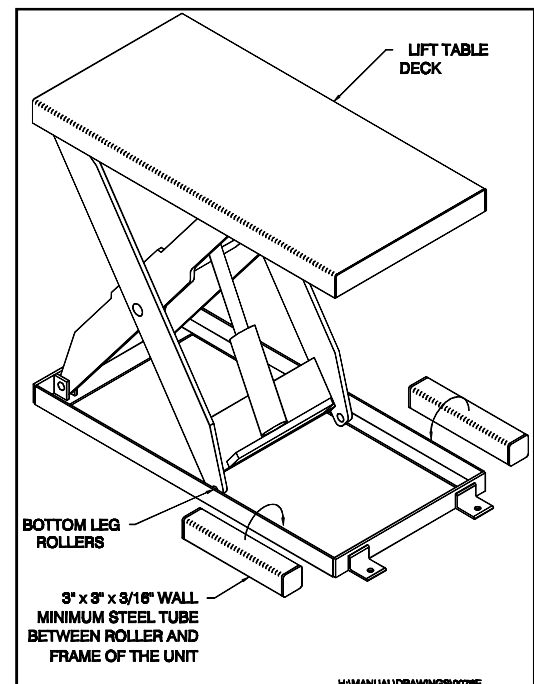

Figure 5: How to Support the Lift Table
2. On both sides of the lift table, insert equal lengths of 3" x 3" x 3/16" minimum wall thickness steel tube with welded steel end caps (minimum 3/16" thick), between the bottom leg rollers and the angle iron frame as shown in "Figure 5: How to Support the Lift Table" on page 12. **NOTE:** Measure the distance from the outside of the rollers to the inside of the frame. Cut the tubes 3/8" shorter than the measured distance. Make sure both tubes are equal in length. All steel tubing and end caps to be minimum (ASTM A-36) or (CSA G40.21).